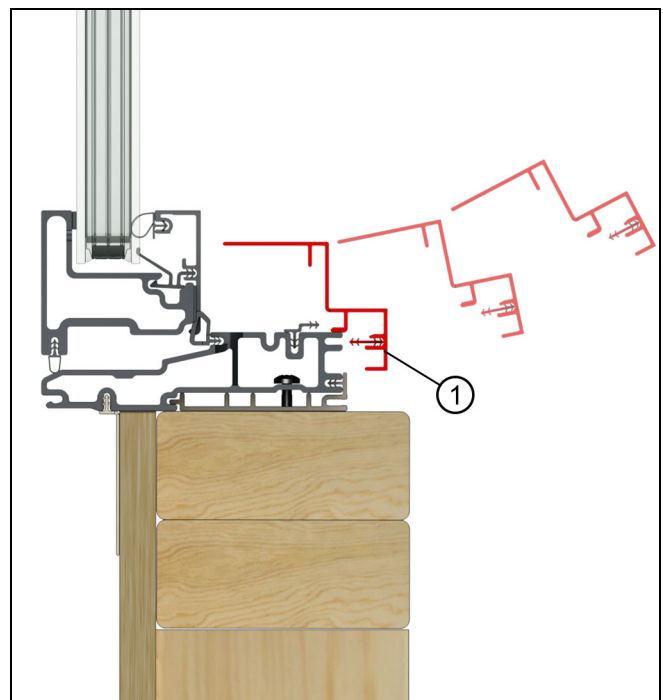

Figure 48
3. Install the sill cover last. Rotate the cover around the crank operator, then push it straight on. Avoid scratching the jamb covers. See Figure 48.